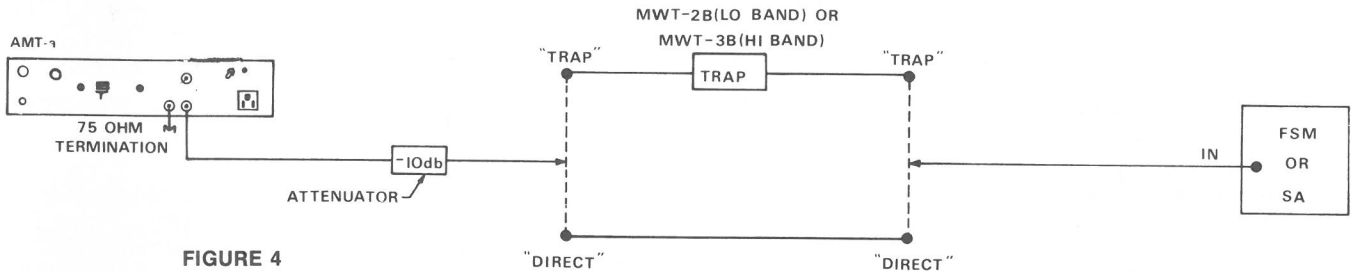

FIGURE 4
1. Connect the AMT-a to a 117-volt line and allow 5 minutes for warm-up. Using a 75-ohm terminator, terminate the AMT-a THRU INPUT. Connect the AMT-a DIPLEXED OUTPUT as shown in Figure 4 thru a 10 dB pad, to the switching set-up, trap, and field strength meter (FSM) or Spectrum Analyzer (SA).
- Reconnect the AMT-a as shown in Figure 4. Set the OUTPUT LEVEL Control for approximately 50 dBmV Visual Carrier Output. Put the switches in the "Trap" position. With the field strength meter or spectrum analyzer tuned to the Visual Carrier, adjust the trap for minimum. The trap should give at least 40 dB attenuation of the Visual Carrier. This is to prevent the generation of intermodulation products within the field strength meter or spectrum analyzer. Now tune the field strength meter or spectrum analyzer to the Visual Carrier +9 MHz. With the AURAL-TO-VISUAL CARRIER RATIO Control at maximum and the switches in the "Trap" position, adjust R27 (Aural Board) for minimum.
- Reconnect the AMT-a as in Figure 4. Put the switches in the "Direct" position and set the Output Level control for +50 dBmV. Visual Carrier output from the AMT-a. Set the AURAL-TO-VISUAL CARRIER RATIO Control for +40 dBmV aural carrier. Don't forget to account for the 10 dB pad when setting signal levels. Now put the switches into the "Trap" position and tune the field strength meter or spectrum analyzer to the Aural image (Visual Carrier Fre-